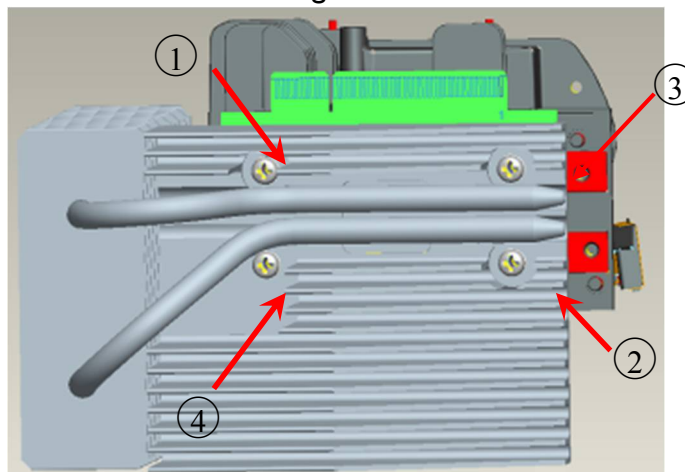

Fig. 5-7
- 2.>Pre-fastening Sequence: [1] - [2] - [3] - [4] (Fig. 5-7).
- 3.>Fastening Sequence: [1] - [2] - [3] - [4] (Fig. 5-7).